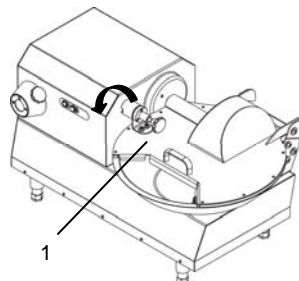

Fig. 6.3.1
3. close the lid and lock it with knob "1" Fig. 6.3.1
5. add the remaining product gradually via tank inlet "2" Fig. 6.3.1.
- Rotate the lid release knob "1" counter-clockwise (Fig. 6.3.1).